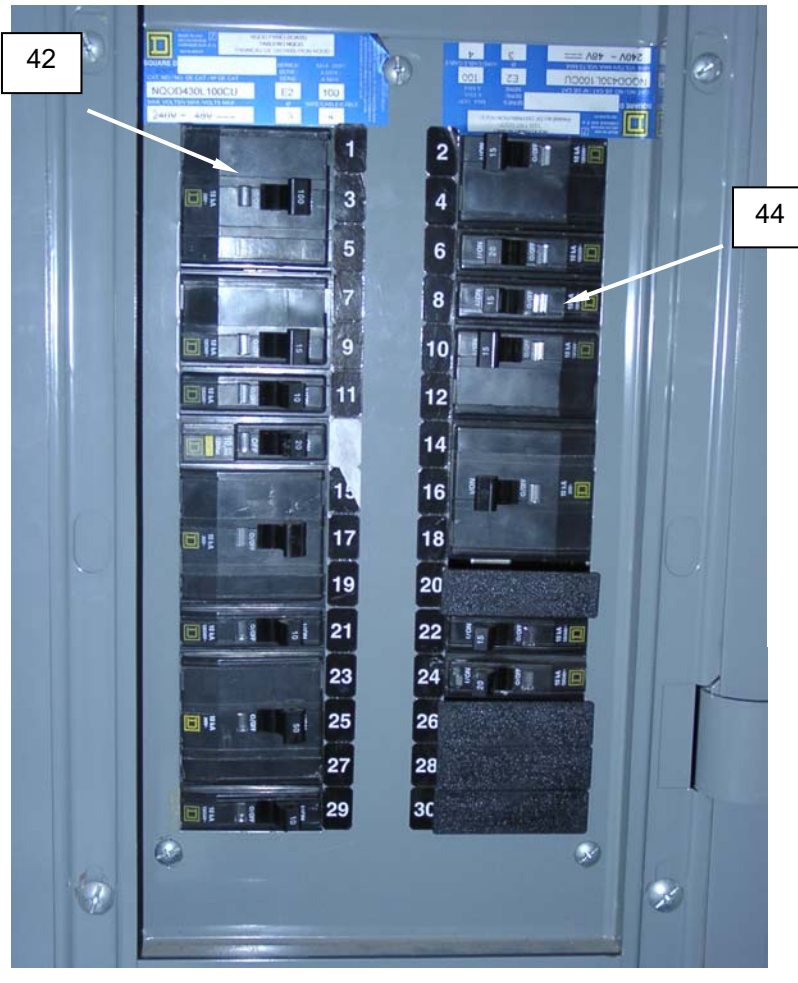

Figure 12. Check Phase Indicators.
1. Open the door to the main breaker panel and make certain that the main breaker (**Figure 12, Item 42**) is switched to the OFF position. All other breakers should also remain in the OFF position at this time.
5. Open the Main Breaker Panel and switch the main breaker to the ON position (**Figure 12, Item 42**).
6. Switch breaker No. 8 (Control Panel) (**Figure 12, Item 2**) to the ON position.
Observe the Phase Indicator light (**Figure 12, Item 43**). The indicator light should be illuminated. If not, switch breaker No. 8 (Control Panel) (**Figure 12, Item 44**) to the OFF position and immediately contact Facilities Support Section Power-Generation Personnel, Prime Power team, or Utilities team as necessary. A condition where the phase indicator is not illuminated indicates that the incoming power is not in proper phase and must be corrected before the CBL can be operated.
7. After verifying that the Phase Indicator light (**Figure 12, Item 43**) is illuminated, place each of the remaining breakers in the ON position. For a complete description of the function of each breaker, refer to WP 0004 00, "Controls and Indicators".